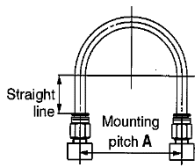

Figure 1 Recommended piping
- (1) When connecting piping to the One-touch fitting, use a pipe length with sufficient margin, in accordance with the piping conditions shown in Figure 1.